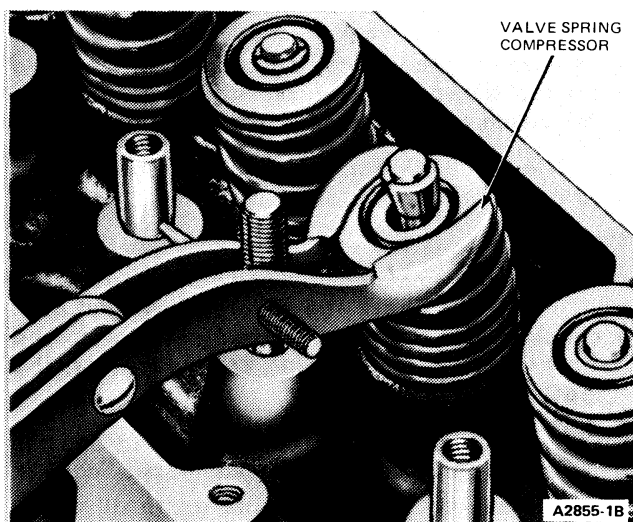

FIG. 48 Compressing Valve Spring on Bench
5. Compress the valve springs (Fig. 48), then remove the valve spring retainer locks and release the spring.
6. Compress the spring (Fig. 48). Install the keys. Tap the retainers after assembly to seat the keys.